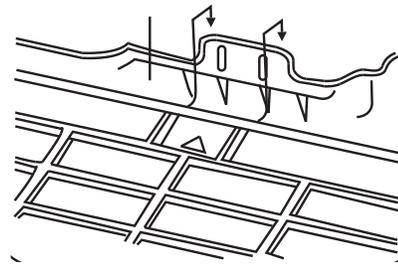
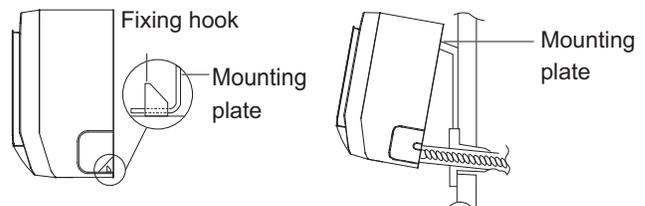

Fig. 17 – Hanging Indoor Unit
Fig. 20 – Hang Indoor Unit
4. Hang indoor unit on upper hooks of wall mounting plate (as shown in Fig. 17 and Fig. 20)